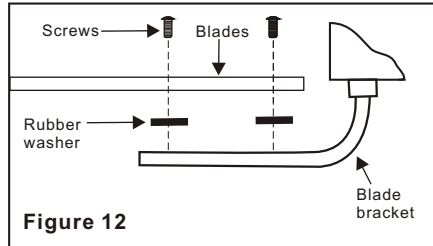

Figure 12
Step 1 Attach the blades to the blade brackets using the screws and rubber washers provided as shown in Figure 12. Start a screw into the bracket, but do not tighten. Repeat for the other 2 screws and washers.